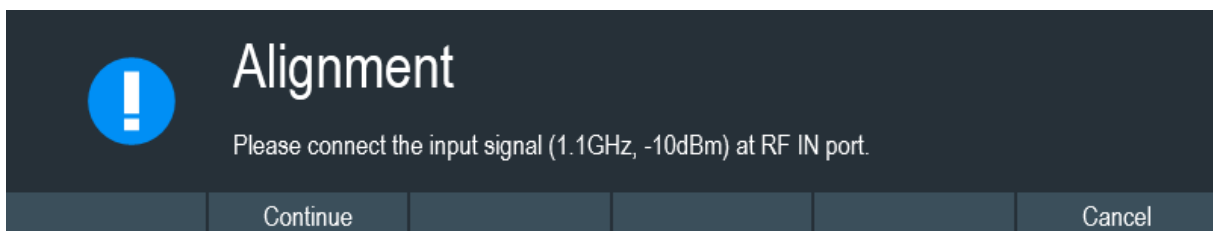

Figure 6-9: Input signal for frequency clock alignment
3. Select "Yes" to overwrite existing default alignment data and proceed to perform alignment. The R&S Spectrum Rider displays the "Alignment" dialog. Depending on the selected alignment item, different input signal is required. See Figure 6-9 and Figure 6-10.